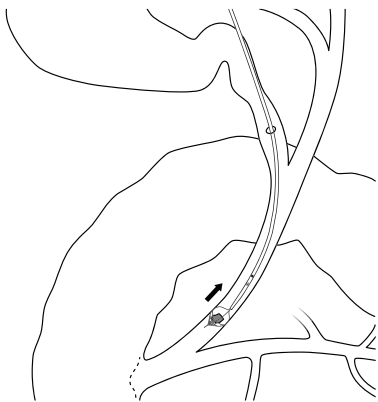

Fig. 4
5. Once captured, slowly transition the thumb tab toward the 'CLOSE' position to secure the stone or debris. **(Fig. 4)**